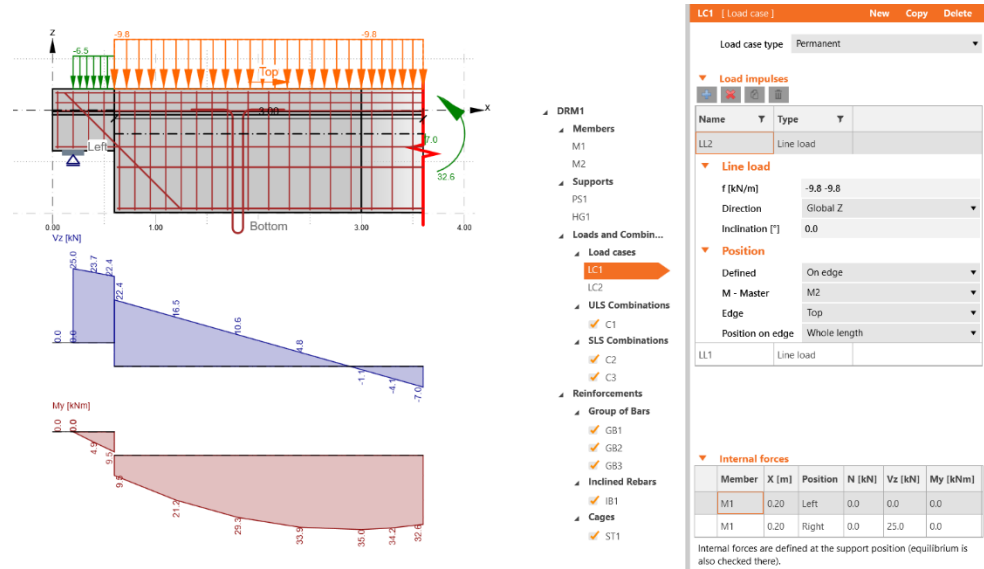

Fig. 6: Internal forces for permanent loads (LC1).
**Internal forces:** In the tab "Internal Forces" adjust the support reactions for the load case LC1 (permanent loads) by setting the shear force at the right of the bearing plate (x = 0.2 m) to 25.0 kN (see Fig. 6).